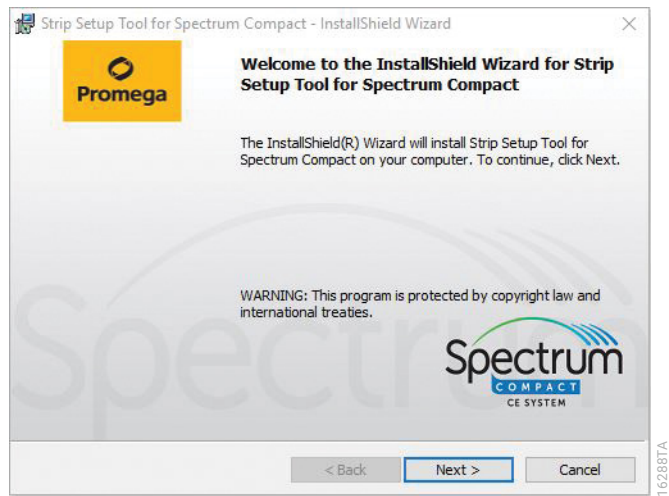

Figure 187. InstallShield Wizard window.
3. The Strip Setup Tool for Spectrum Compact InstallShield Wizard window will be displayed (Figure 187). Select **Next**.